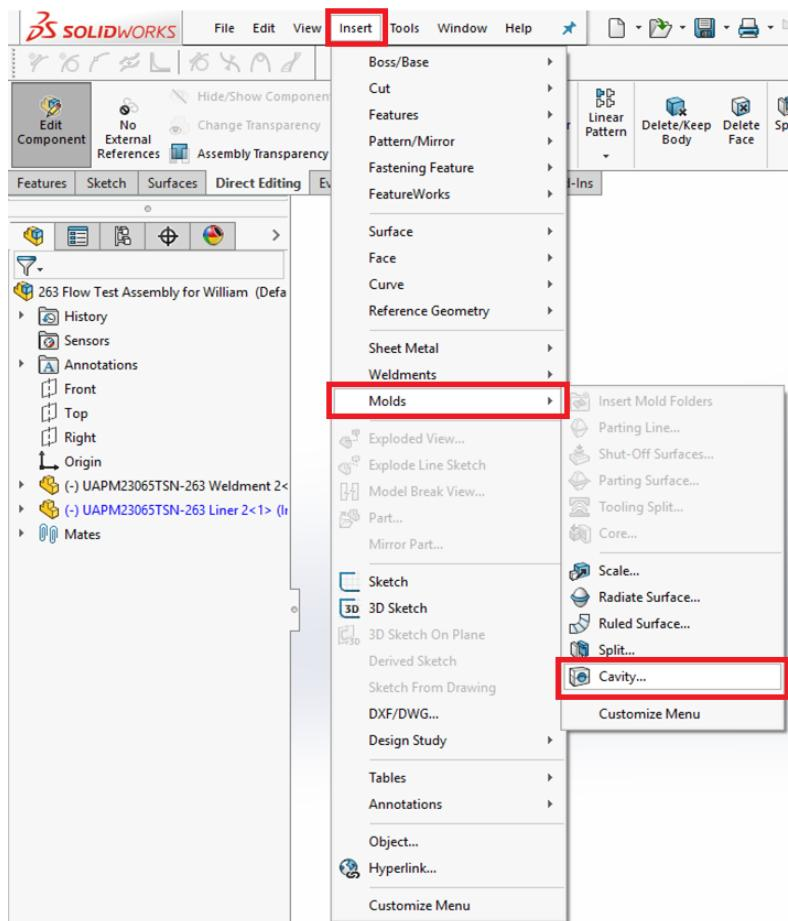

Figure 1.8:
- Go to Insert → Molds → Cavity and select Cavity (Figure 1.8)